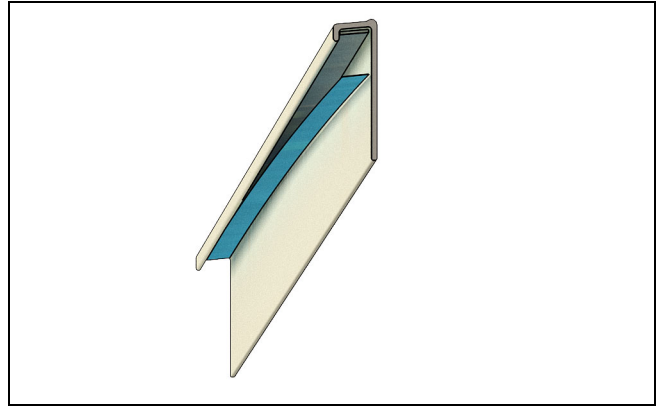
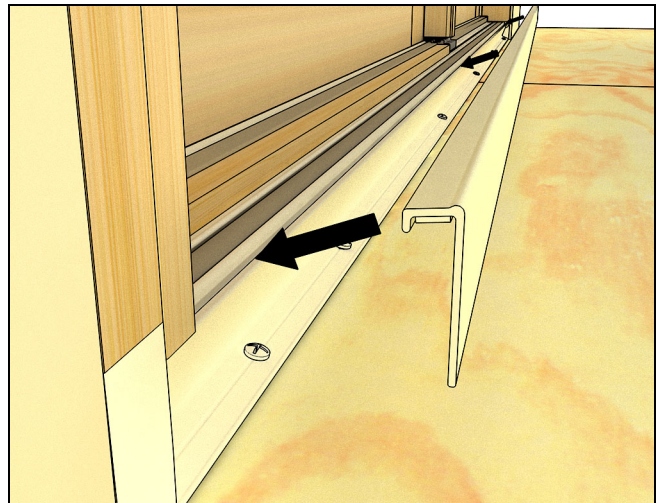

Figure 25
Figure 26
2. Locate and remove tape backer on the interior sill liner. Press down and fully seat the sill liner. See Figure 25 and Figure 26.